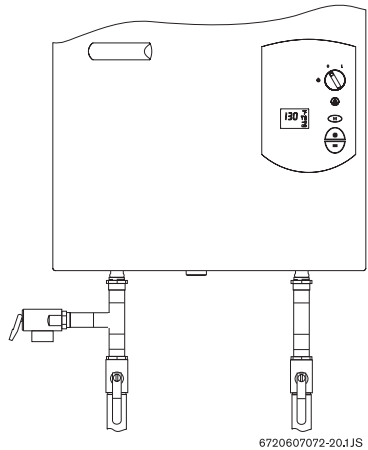

Fig. 26 Plumbing Connections and Pressure Relief Valve
If the cold and hot connections to the heater are reversed, the heater will not function. Be certain there are no loose particles or dirt in the piping. Blow out or flush the lines before connecting to the water heater. Full port valves should be installed on both the cold water supply and hot water outlet lines to facilitate servicing the heater (see Fig. 26). For installation on a private well system with the use of a pressure tank, the lowest pressure range setting recommended is 30-50 psi (2.07 and 3.45bar).
A listed pressure relief valve supplied with the heater must be installed at the time of installation. No valve is to be placed between the PRV and the heater. No reducing coupling or other restriction may be installed in the discharge line. The discharge line must be a minimum of 4" above a drain and installed such that it allows complete drainage of both the PRV and the line. The location of the PRV must be readily accessible for servicing or replacement, and be mounted as close to the water heater as possible. See Fig. 26. To install the PRV, a suitable fitting connected to an extension on a "T" fitting can be sweated to the hot water line. Support all piping.
- ▶ **2.** The gas valve must be shut off by putting the ON/OFF switch to position (0). Wait five (5) minutes to clear out any gas. If you smell gas, STOP! Follow "B" in the safety information above. If you do not smell gas, go to the next step.
- ▶ **4.** Set the ON/OFF switch to the (I) position. In this position, the water heater is ready to use.
NOTE: on a first time initial installation or after gas line work has been done, existence of air in the gas line will cause ignition delay when the hot water is turned on. This will result in an error (EA) on the units display screen. This is normal. When this occurs, leave the hot water running and wait 3-5 seconds, then reset the unit (Fig. 26, pos. 2). Wait for (EA) to disappear. The heater will begin to attempt ignition again, if the (EA) reappears then repeat this same process until all air has been bled from the gas line.